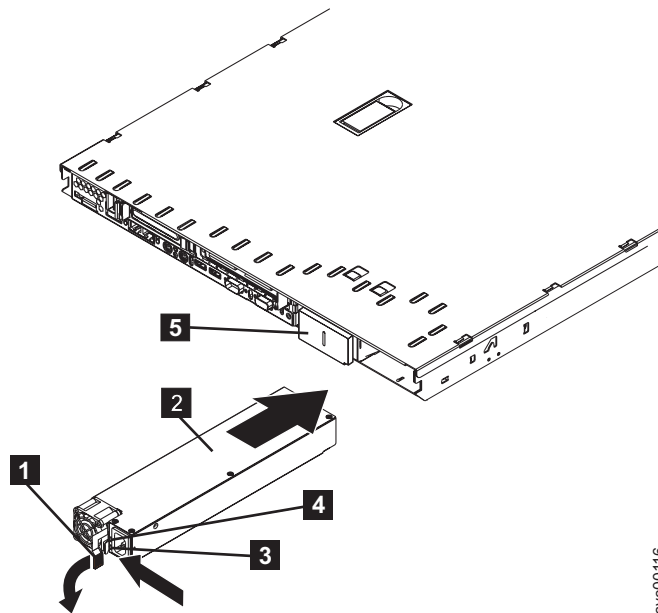

Figure 147. SAN Volume Controller 2145-8F2 power supply handle
- a. Rotate the handle **1** down on the rear of the power supply to the open position, and then slide the power supply forward into the power-supply bay. See Figure 147.